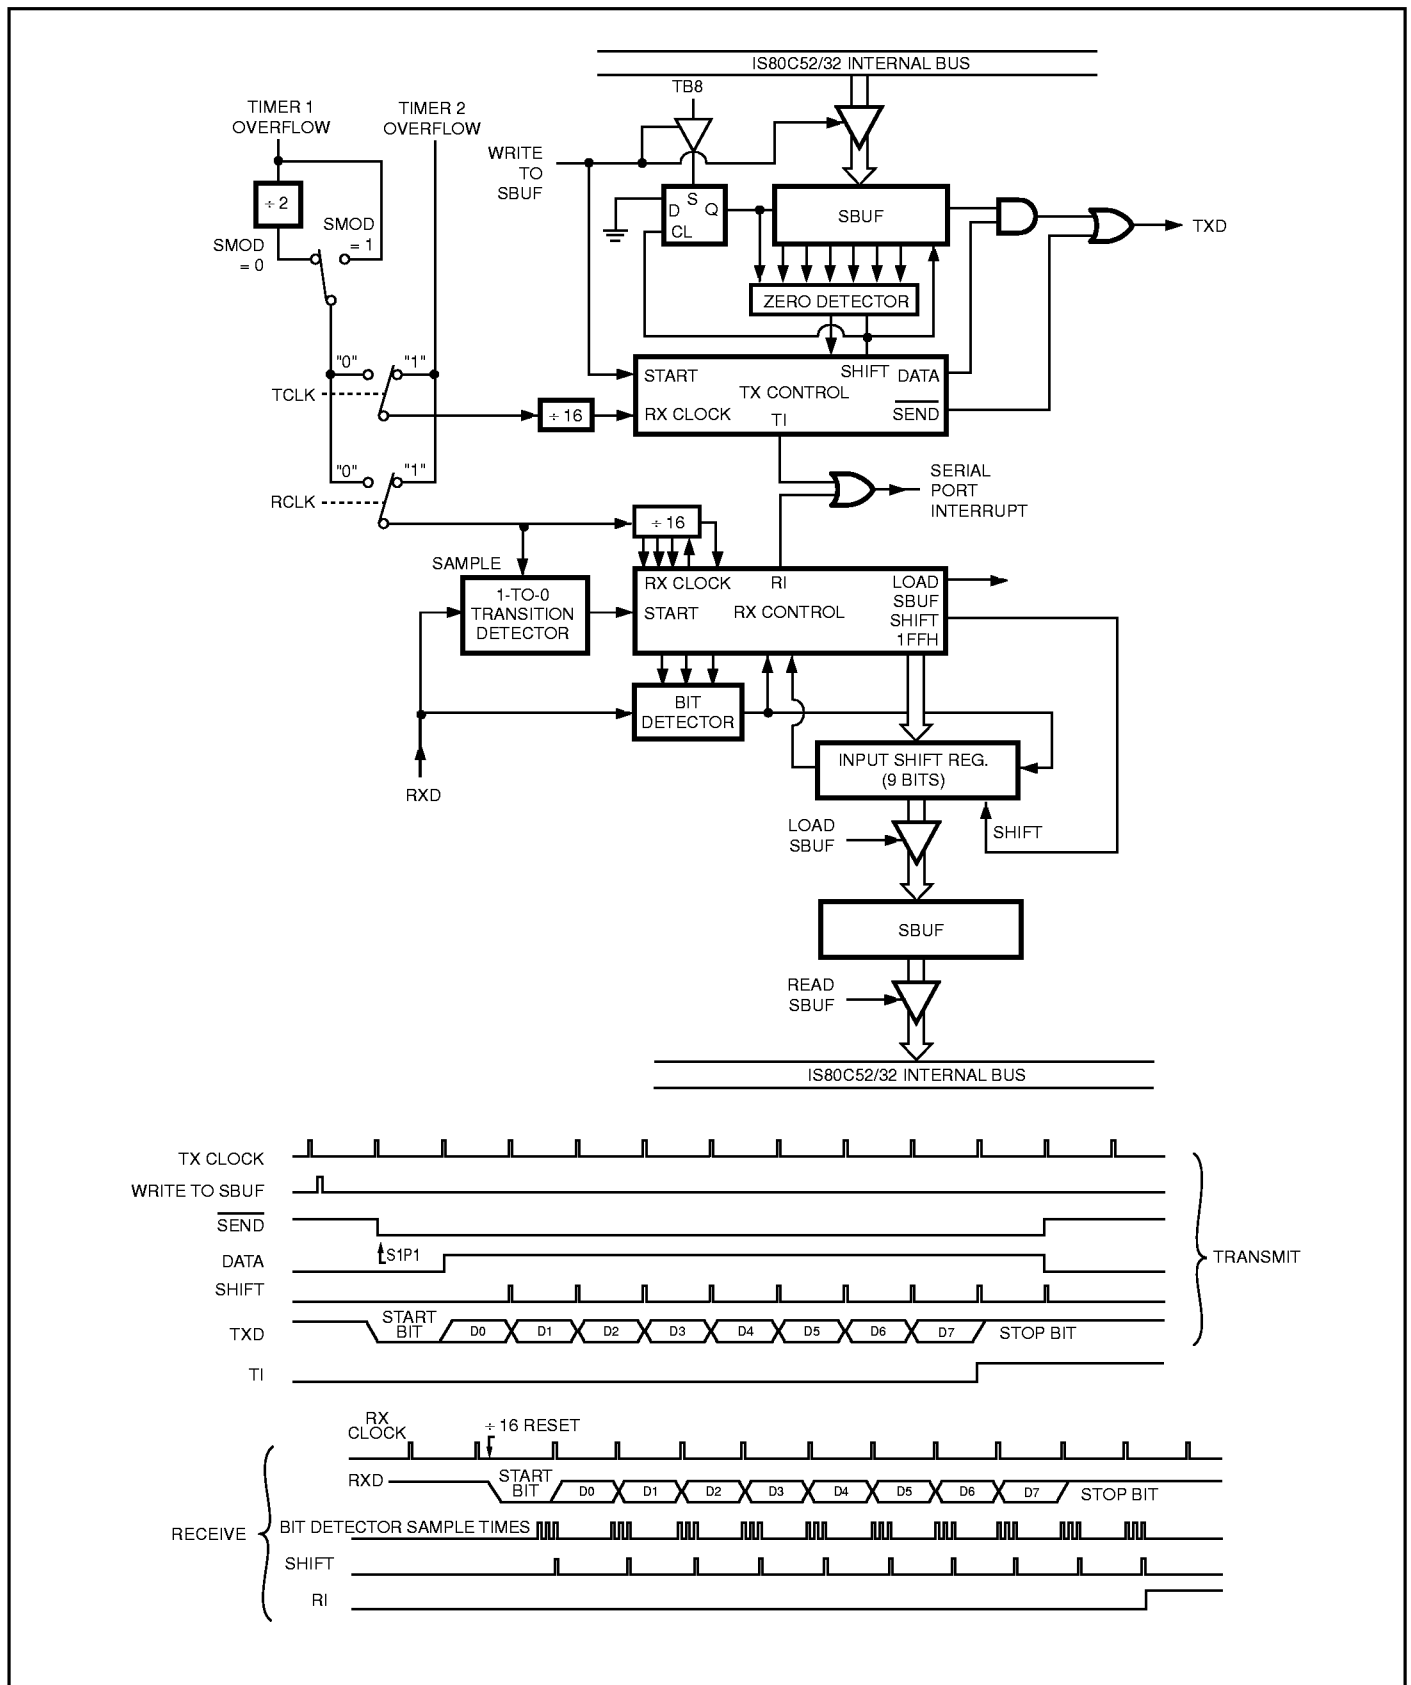

Figure 15. Serial Port Mode 1
Ten bits are transmitted (through TXD) or received (through RXD): a start bit (0), eight data bits (LSB first), and a stop bit (1). On receive, the stop bit goes into RB8 in Special Function Register SCON. The baud rate is variable (see Figure 15).
Figure 15 shows a simplified functional diagram of the serial port in Mode 1 and associated timings for transmit and receive.